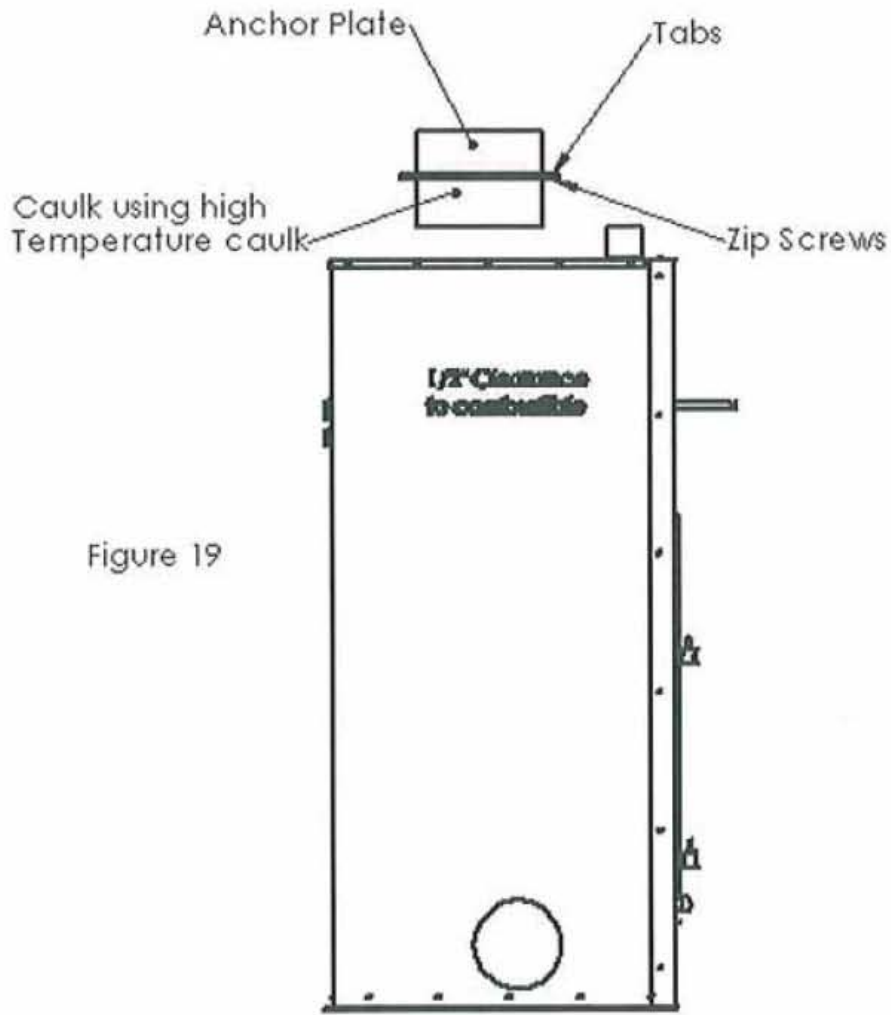

Figure 19
- ✓ Before fastening the anchor plate to the unit, place a thick bead of high temperature caulking underneath the anchor plate base (SEE FIGURE 19). This needs to be able to take temperatures in excess off 1,000 degrees. You may also use a high temperature gasket such as round stove gasket material. This would also be glued into place with high temperature cement.